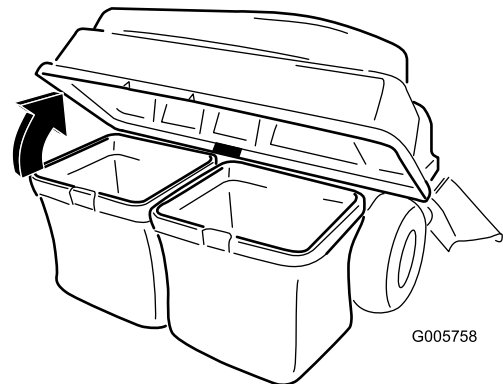

Figure 30
- Open (raise) the bagger top (Figure 30).